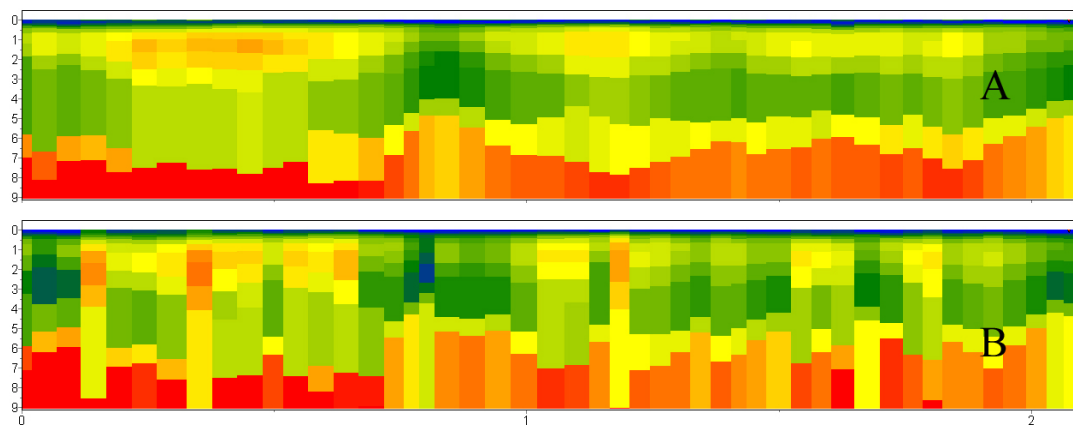

Fig. 17 Results of 1.5D inversion algorithm (A) compared to results of standard 1D inversion (B)
Figure 17 shows results of this algorithm (A) compared to results obtained by standard procedure (B).